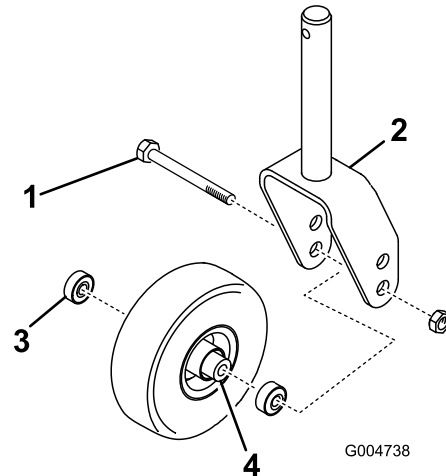
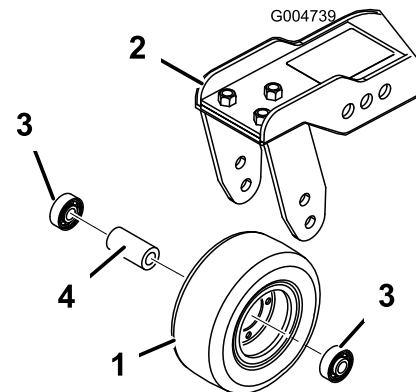

Figure 112
Figure 113
1. Remove the locknut from the bolt holding the caster-wheel assembly between the caster fork (Figure 112) or the caster-pivot arm (Figure 113).
2. Remove the bearing from the wheel hub and allow the bearing spacer to fall out (Figure 112 and Figure 113).